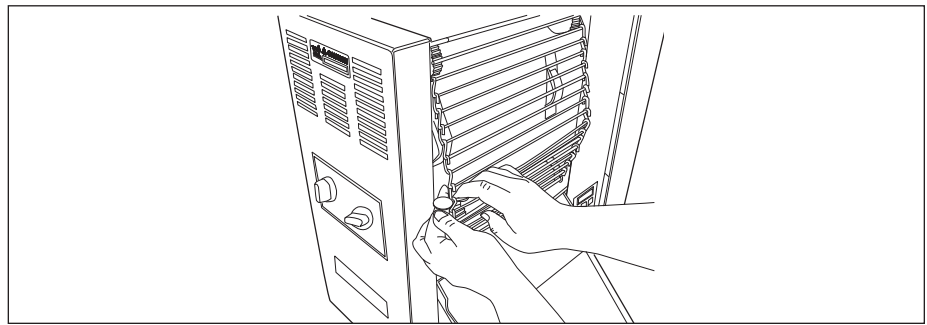

Figure 12. Removing Conveyor Belt Chain
6. Pull the Conveyor Chain away from the edge of the toaster (Figure 12).
7. Stand a U.S. Dime on end between the frame and the chain (Figure 12).